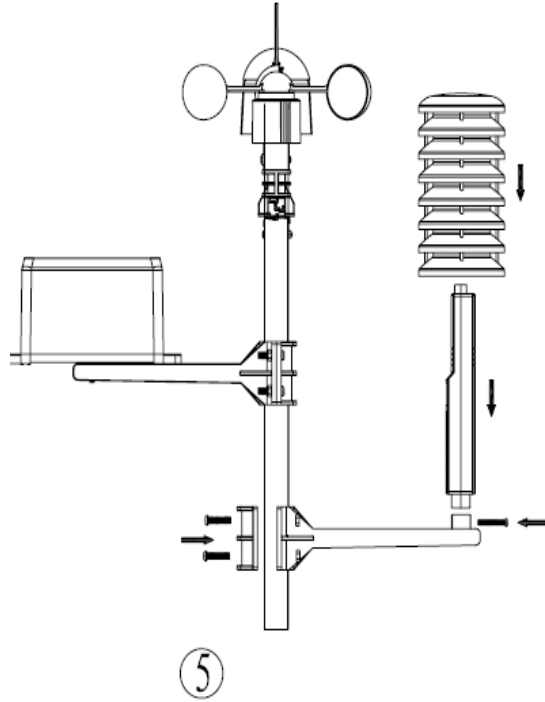

Figure 5
5. Connect the thermo-hygrometer with short bolt and nut. Tighten with precision screwdriver, as shown in Figure 5. Slide the radiation shield over the thermo-hygrometer after connecting the cables from the anemometer and rain gauge (step 7). Attach to the thermo-hygrometer mounting arm to the upper mounting pole.